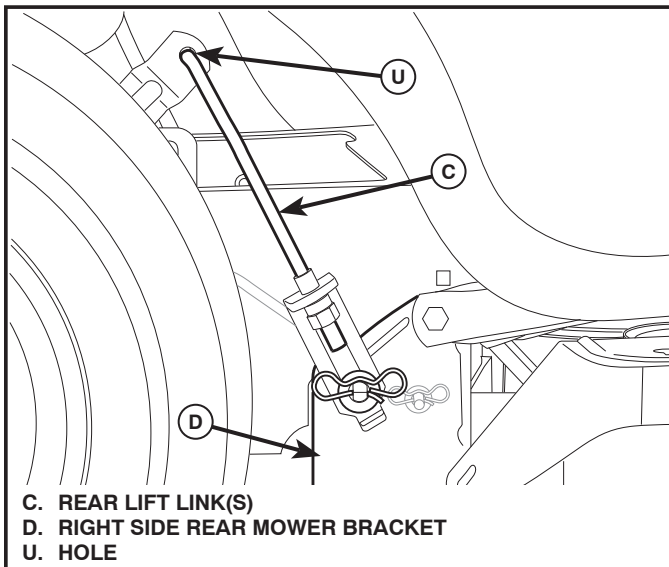

Fig. 32
## 7. ATTACH REAR LIFT LINKS (C) (See Fig. 32)
- Insert rod end of rear lift link (C) into hole (U) in tractor lift shaft suspension arm and pivot link down to mower.
- Lift rear corner of mower and position slot in link assembly over pin on rear mower bracket (D) and secure with large washer and large retainer spring.